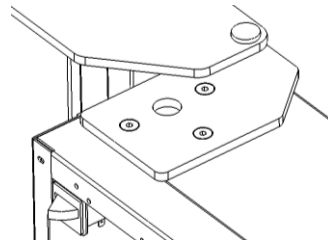

Fig.4
Open the door at least 90 degrees. While someone holds the door in place to prevent bending or damage to the bottom pivot, remove the three (3) 5/32" hex socket/Allen screws fastening the top hinge assembly to the top of the door (see Fig. 4). Once these screws are removed the door needs to be lifted vertically off the bottom hinge. The bottom hinge pin rests on nylon washers to provide proper door height and smooth operation - retain these washers for reassembly.